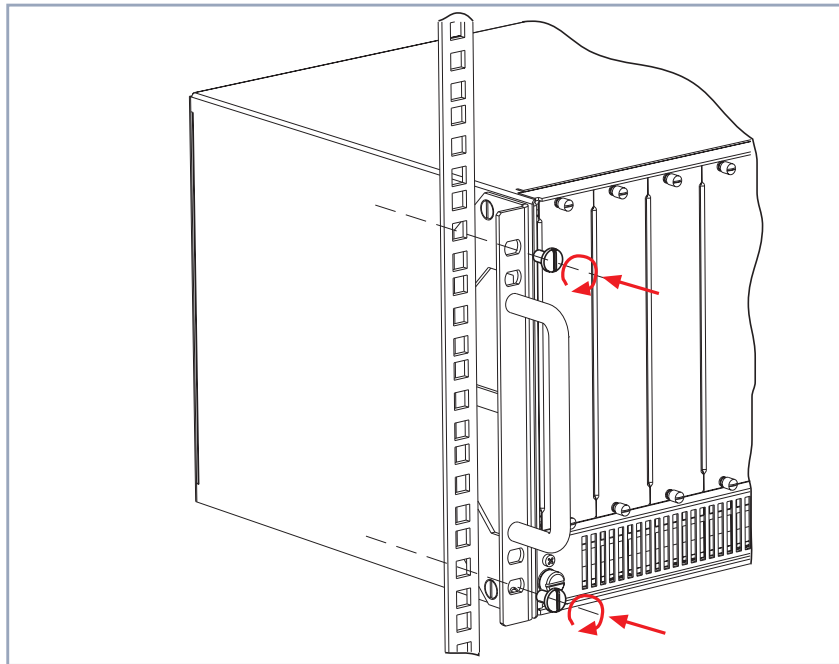

Figure 4-1: Fixing **X8500** to the 19-inch rack
- ▶ Insert the unit in the cabinet and screw it to the longitudinal sections of the rack or cabinet as shown in figure 4-1, page 30 (these screws are not supplied with **X8500**, but are included with the rack or cabinet).